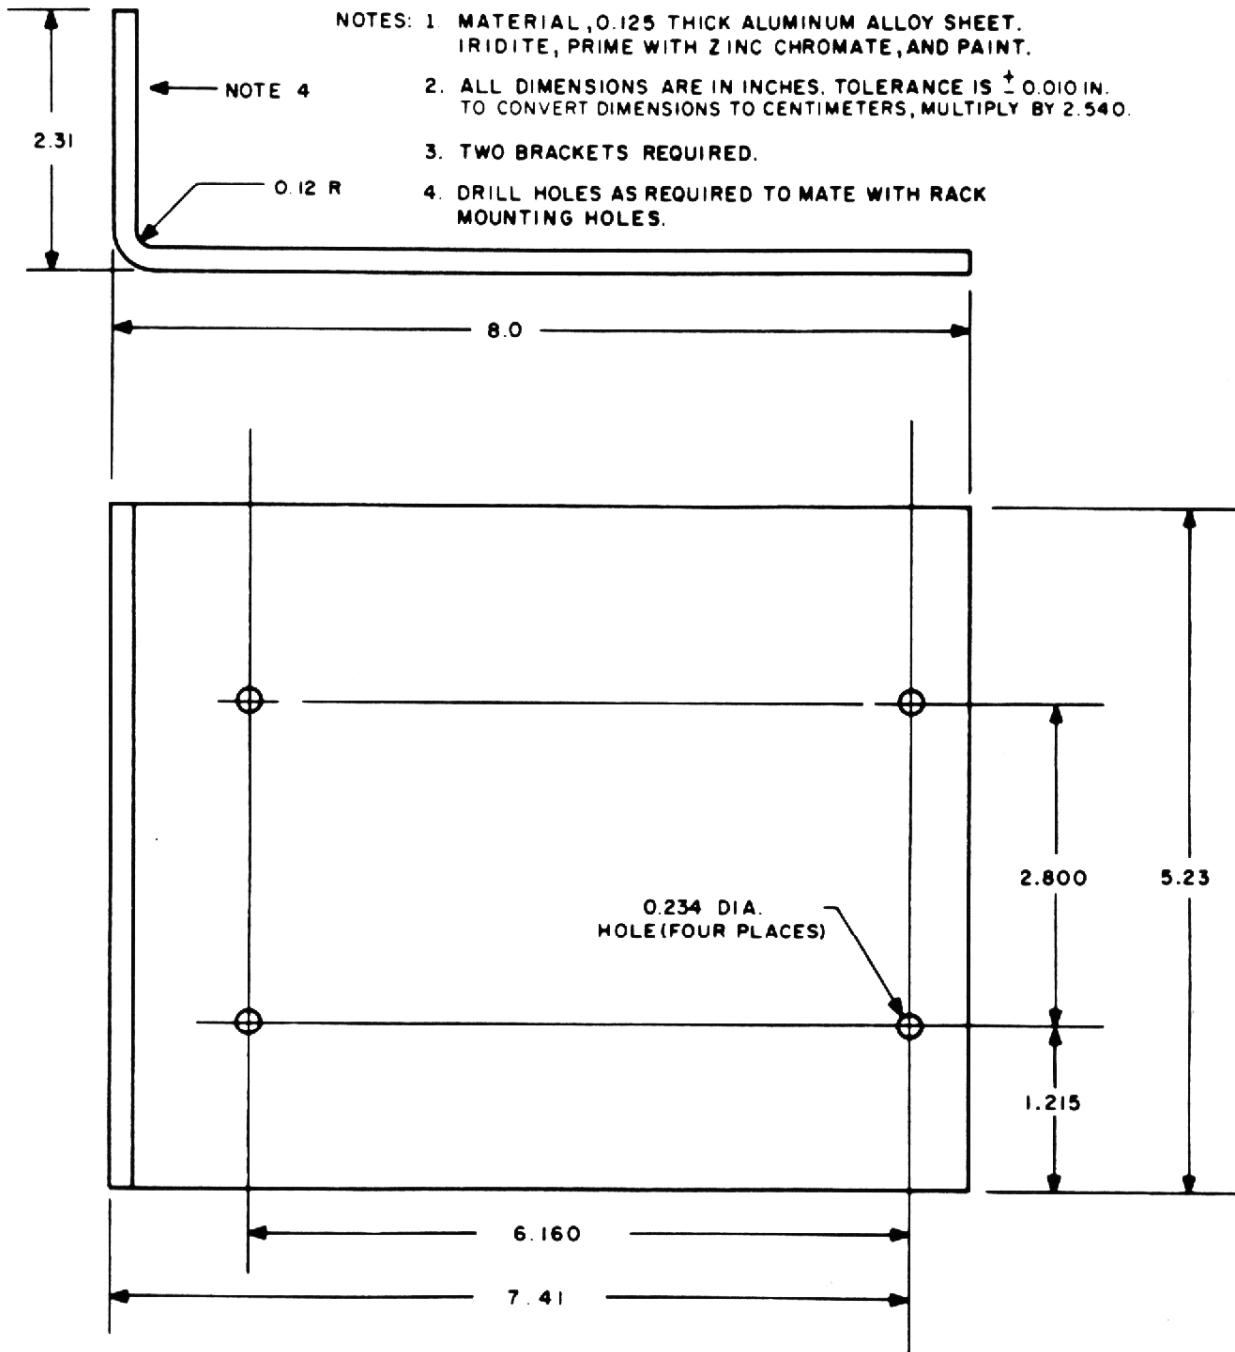

Figure 2-2. Rack Mounting Bracket, Fabrication Diagram
- 1. Fabricate the required rack mounting brackets using the information provided in figure 2-2.